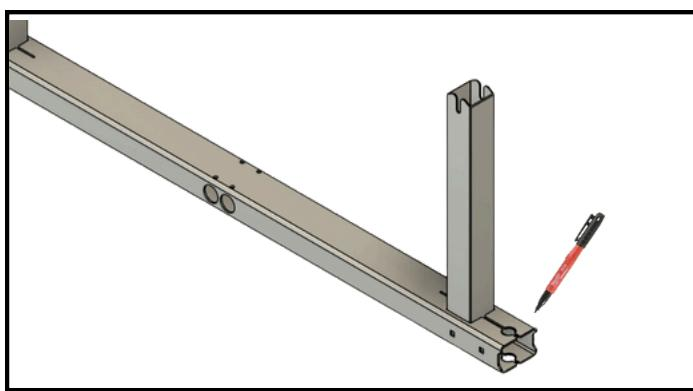

Figure 36
- We recommend installing the tall leg with the opening facing the back of the frame (*See Figure 36*).